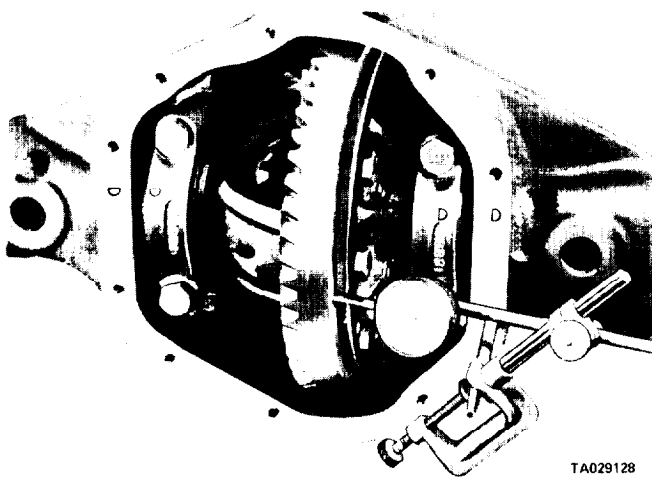

Figure 20-1. Checking Drive Gear Runout.
(1) Remove the front axle assembly from the truck (see chapter 6). Place the carrier and tube assembly on a holding fixture with the carrier cover opening facing upward.
(2) Thoroughly clean the differential gears, bearings, and other internal parts with a suitable solvent.
(3) Install a dial indicator (figure 20-1), and check the back face of the drive gear for runout. A reading in excess of 0.006 inch might indicate a loose drive gear or a sprung differential case.